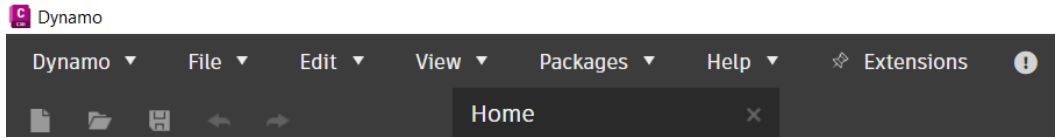

Figure 12.6 – Dynamo for Civil 3D drop-down menus
- Our standard set of drop-down menus along the top of our session is as shown in *Figure 12.6*.